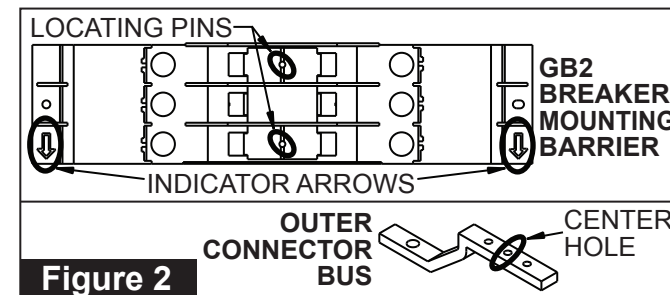
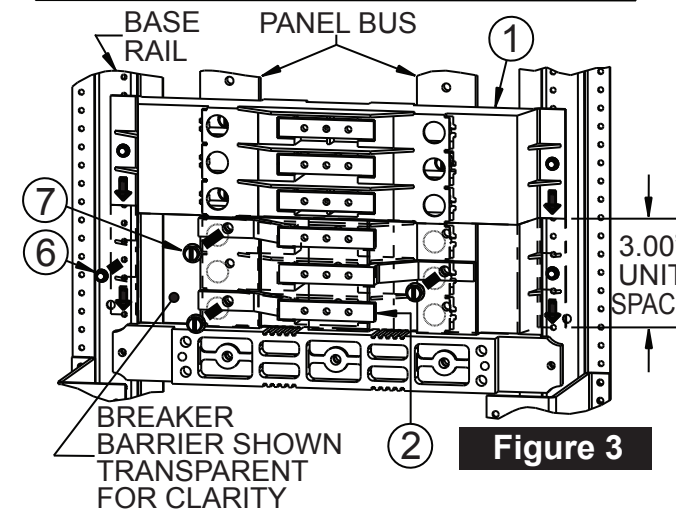
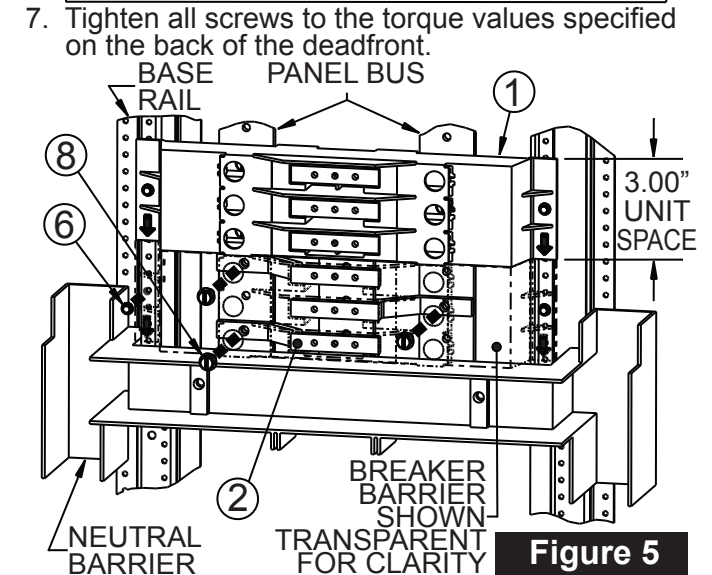

Figure 2
Figure 3
Figure 5
6. Refer to Figure 3
Position the breaker mounting barrier (Item 1) so that it fills the 3" unit space for the kit and fasten it to the base rails using two #8-32 screws (Item 6). Install the three outer connectors (Item 2) within the mounting barrier, alternating between the left and right panel bus. The left-right-left connector pattern (shown in Figure 3) may be reversed if necessary to continue a connector pattern already in place in the panel. Use the locating pins on the mounting barrier (Figure 2) to aid in aligning the two outer connectors with the center hole on the connector. Fasten the connectors to the panel bus with three 1/4"-20 x 5/8" screws (Item 7).
Position the breaker mounting barrier (Item 1) so that it fills the 3" unit space for the kit and fasten it to the base rails using two #8-32 screws (Item 6). Install the two outer connectors (Item 2) and the center connector (Item 3) within the mounting barrier, as shown. Use the locating pins on the mounting barrier (Figure 2) to aid in aligning the two outer connectors with the center hole on the connector. Fasten the outer connectors to the panel bus with two 1/4"-20 x 5/8" screws (Item 7) and center connector with one 1/4"-20 x 1-7/8" screw (Item 11).
6. Reference Figure 5
Position the breaker mounting barrier (Item 1) so that it fills the 3" unit space for the kit and fasten it to the base rails using two #8-32 screws (Item 6). Install the phase connectors (Item 2) within the mounting barrier, alternating between the left and right panel bus. The left-right-left connector pattern shown in Figure 5 may be reversed if necessary to continue a connector pattern already in place in the panel. Use the locating pins on the mounting barrier (Figure 2) to aid in aligning the two outer connectors with the center hole on the connector. Fasten the connectors to panel bus with three 1/4"-20 x 1" screws (Item 8).
Position the breaker mounting barrier (Item 1) so that it fills the 3" unit space for the kit and fasten it to the base rails using two #8-32 screws (Item 6). Install the two outer connectors (Item 2) and the center connector (Item 3) within the mounting barrier, as shown. Use the locating pins on the mounting barrier (Figure 2) to aid in aligning the two outer connectors with the center hole on the connector. Fasten the outer connectors to the panel bus with two 1/4"-20 x 1" screws (Item 8) and center connector with one 1/4"-20 x 2-1/4" screw (Item 10).